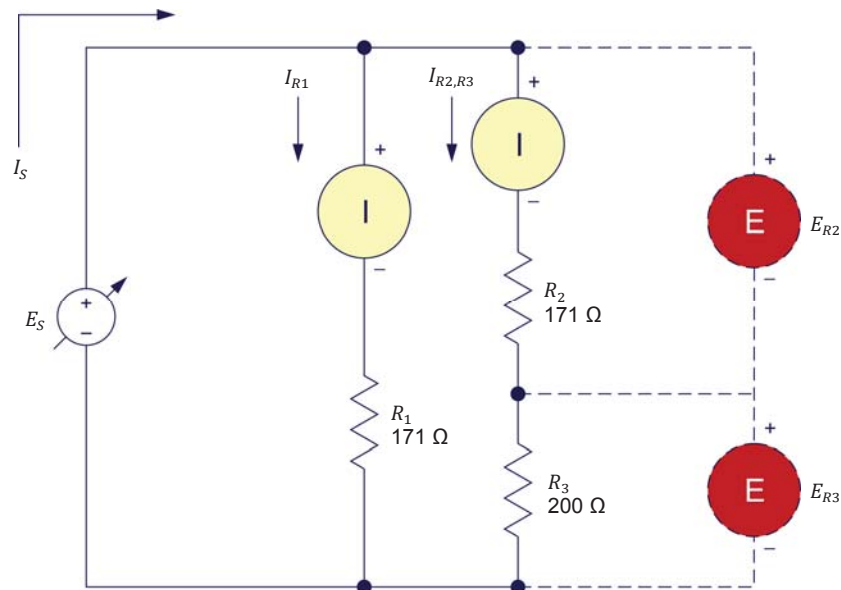

Figure 33. Circuit made of resistors connected in series-parallel.
- 30.** Set up the circuit shown in Figure 33. To obtain the resistor arrangement of Figure 33, make the necessary connections and switch settings on the **Resistive Load** module.
Set a multimeter to measure dc current and connect it in series with resistor R_1 , as Figure 33 shows.
Set another multimeter to measure dc current and connect it in series with resistor R_2 , as Figure 33 shows.
- 31.** Calculate the equivalent resistance $R_{Eq.}$ of the resistors in Figure 33. Then, calculate the source current I_S based on the equivalent resistance $R_{Eq.}$ and the source voltage E_S of 50 V.
Set the multimeters to measure dc voltage. As Figure 33 shows, connect a voltmeter across resistor R_2 . Connect the other voltmeter across resistor R_3 .
5. Refer to Figure 33. How can the source current I_S be reduced by half?